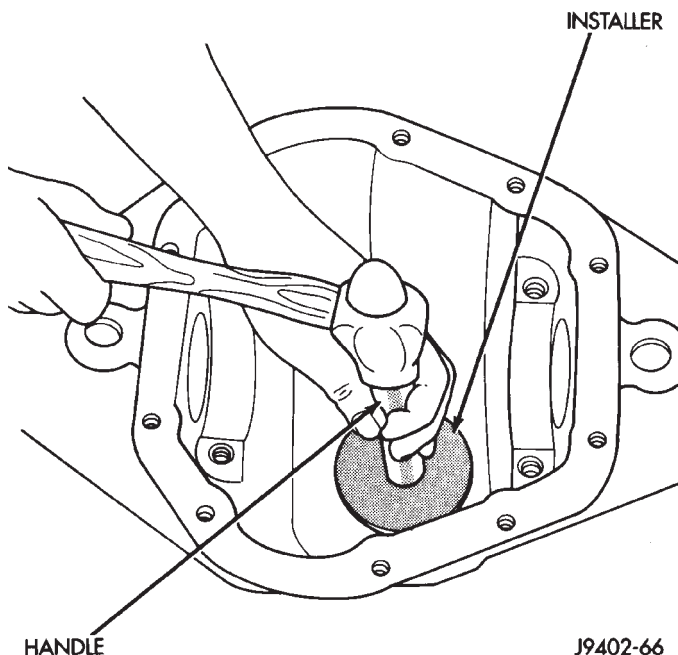

Fig. 25 Pinion Rear Bearing Cup Installation
(1) Apply Mopar® Door Ease stick lubricant to outside surface of bearing cup. Install the pinion rear bearing cup with Installer D-111 and Handle C-4171 (Fig. 25). Ensure cup is correctly seated.